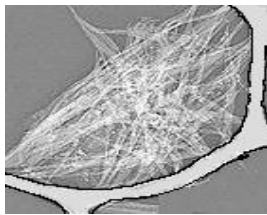
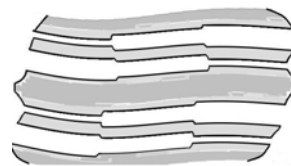

Figure 1
Figure 2
Porous metallic powders are used to produce catalysts, gas storage etc. They are assemblies of particles crossed by canals, with a sponge-like structure. In the Figure 1 is shown a portion of a spherical particle – part of the powder - crossed by pores and surrounded by other particles. The spheres forming a porous powder are crossed by networks of pores as shown in Figure 2. The sketch of pores in Figure 2 is not "at scale".
B. In the syringe - whose needle hole was closed – is inserted the volume $V = 6,00 \text{ cm}^3$ of porous powder and a volume $v_\ell = 4,00 \text{ cm}^3$ of liquid that does not wet porous material. At first, the liquid does not penetrate into porous powder composed of spheres - "sponge", similar in size and porosity, crossed by canals of the kind shown in Figure 2. In the absence of compression, the air occupies the places between the particles and also the channels of different diameter in the spheres. Volumes of these channels are denoted by $v_I, v_{II}, \dots$ in descending order of their diameters (denoted respectively $d_I, d_{II}, \dots$). During the solving the problem, use the following notations: